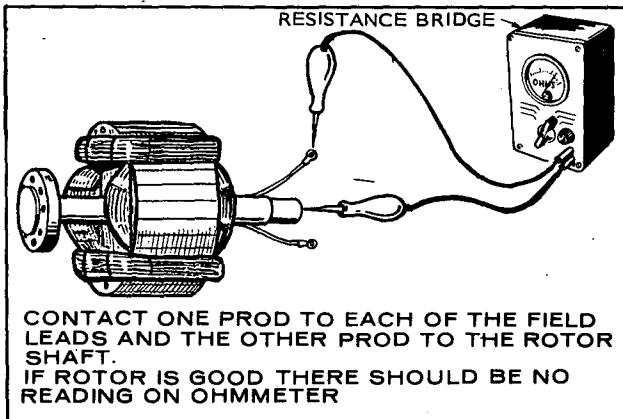

FIGURE 11. TESTING ROTOR FOR GROUNDS
**Testing for grounds:** Remove F+ and F- rotor leads from diode heat sink assemblies. Connect an ohmmeter (R x 100 Scale) between either rotor lead and the rotor shaft. A reading of less than infinity indicates a ground. See Figure 11.